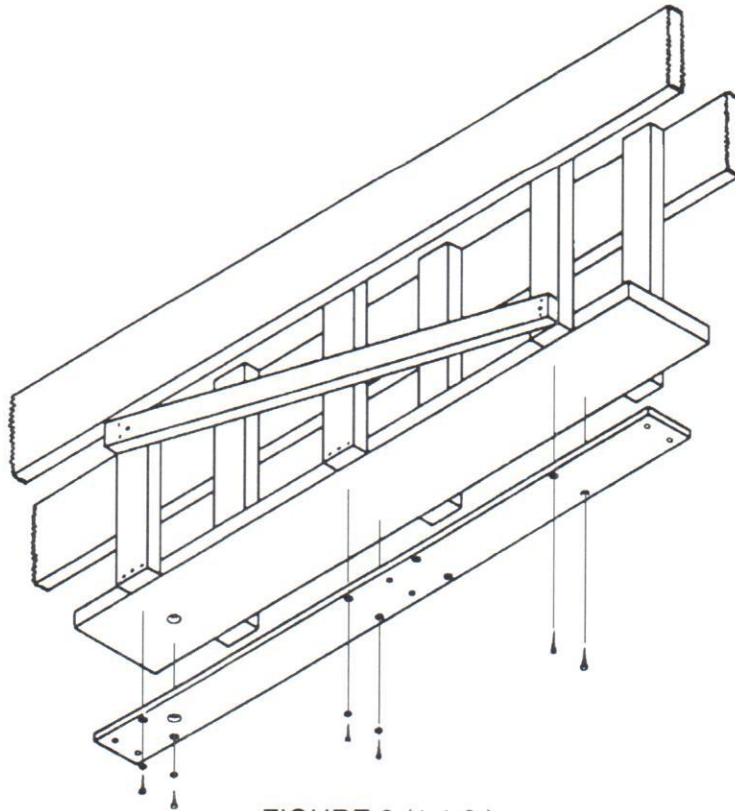

FIGURE 3 (1.1.3.)
1.1.3. For suspended ceilings, appropriate rigid structure must be attached to ceiling framework to provide 200 lb. dead weight capacity. (SEE FIGURE 3.)